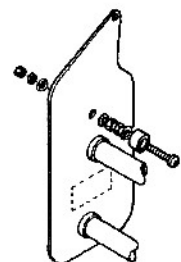

Fig. 58
65. See Fig. 58. Remove a hex nut (161), split lock washer and flat washer (162) from the assembled carriage bumper.
66. Put the carriage bumper through the hole in the carriage plate (61), with the rubber bumper (159) inside the cabinet.